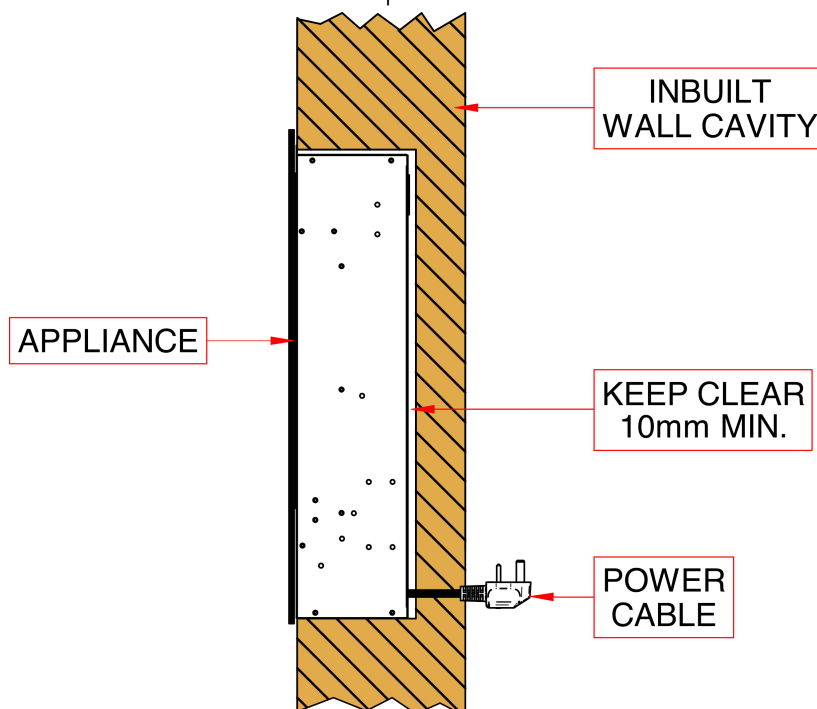

FIG: 10
- FOR VENTILATION AND NORMAL FUNCTION OF THE APPLIANCE ENSURE A 10mm MINIMUM GAP EXISTS BETWEEN THE BACK OF THE APPLIANCE AND THE WALL THE APPLIANCE IS FIXED TO REFER FIG 10.